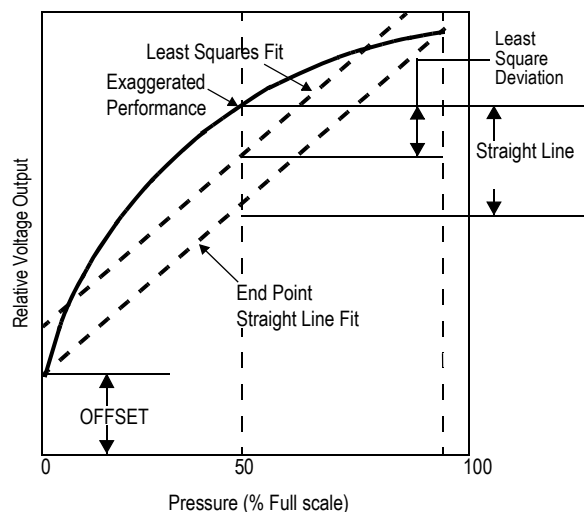

Figure 3. Linearity Specification Comparison
Linearity refers to how well a transducer's output follows the equation:  $V_{out} = V_{off} + \text{sensitivity} \times P$  over the operating pressure range. There are two basic methods for calculating nonlinearity: (1) end point straight line fit (see Figure 3) or (2) a least squares best line fit. While a least squares fit gives the "best case" linearity error (lower numerical value), the calculations required are burdensome.